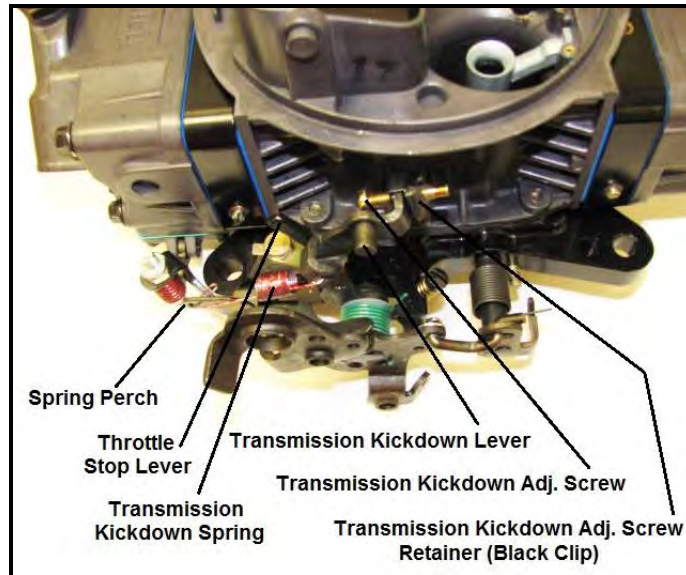

Figure 2—Ford applications
2. Insert the transmission kickdown screw with the black retaining clip on the transmission kickdown lever (Figure 2). This assembly must be installed according to the detailed drawing (Figure 3).
4. Install the transmission kickdown spring between the transmission kickdown lever and spring perch on the solenoid/dashpot bracket (Figure 2).